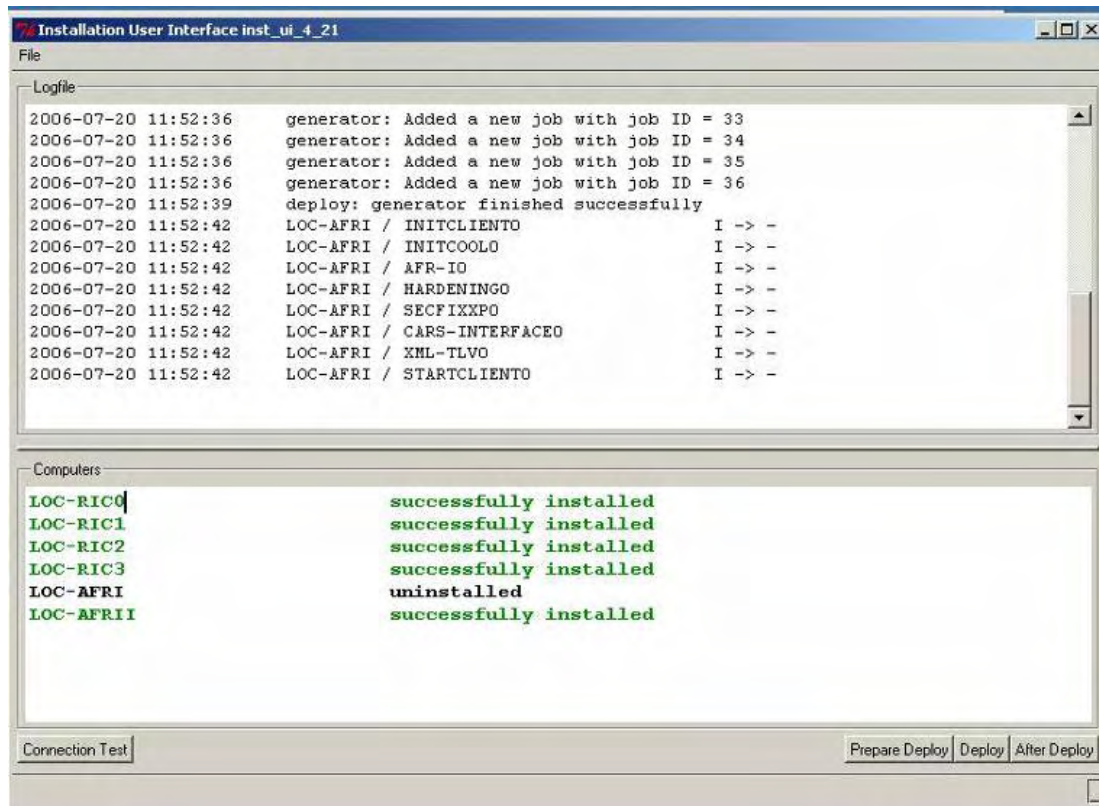

Figure 1-262. Uninstalled Status for Changed System
30. The status of the system with the changed configuration will change to uninstalled (Figure 1-262).